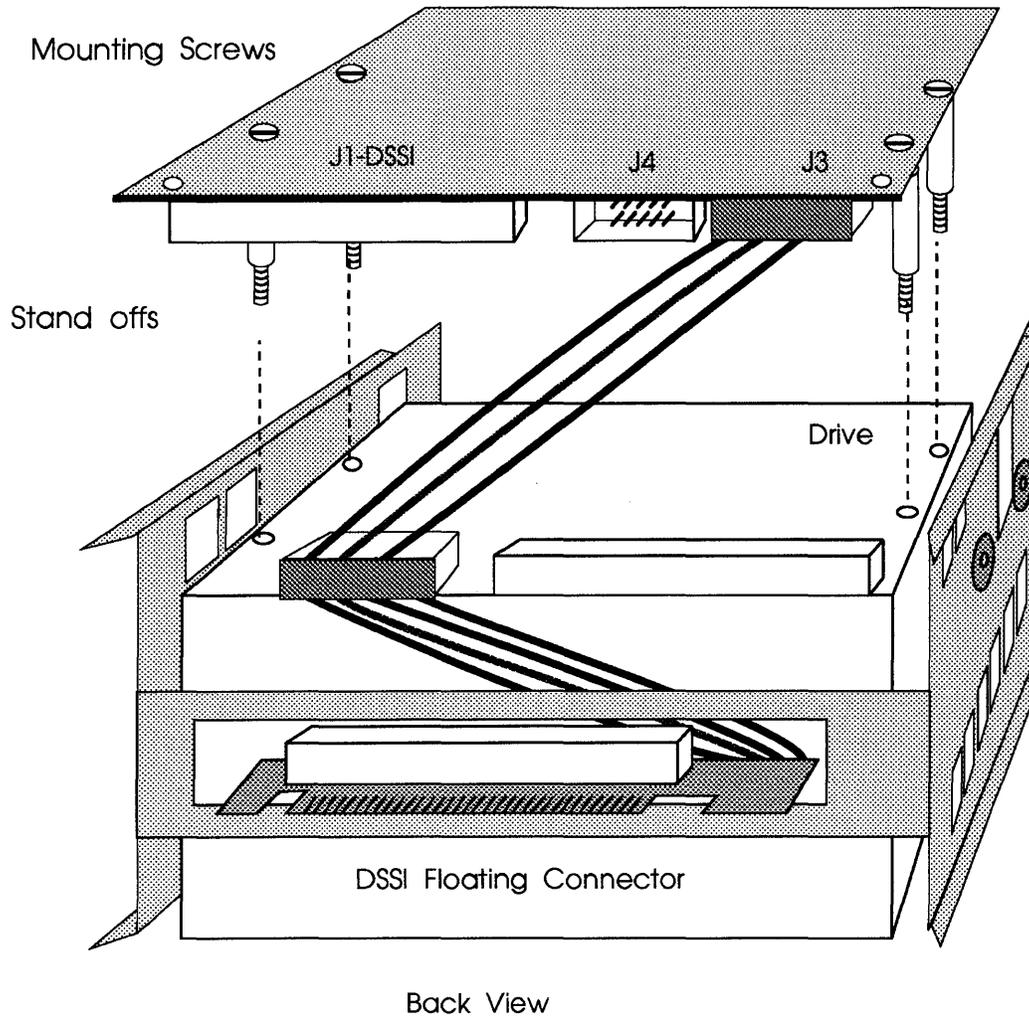

Figure 4-16: CDI-4000-SA1 board mounting
- 8 Place the CDI-4000 and mylar on top of the drive with J1 facing the floating connector, and component side facing the drive, and tighten four screws. See Figure 4-16.